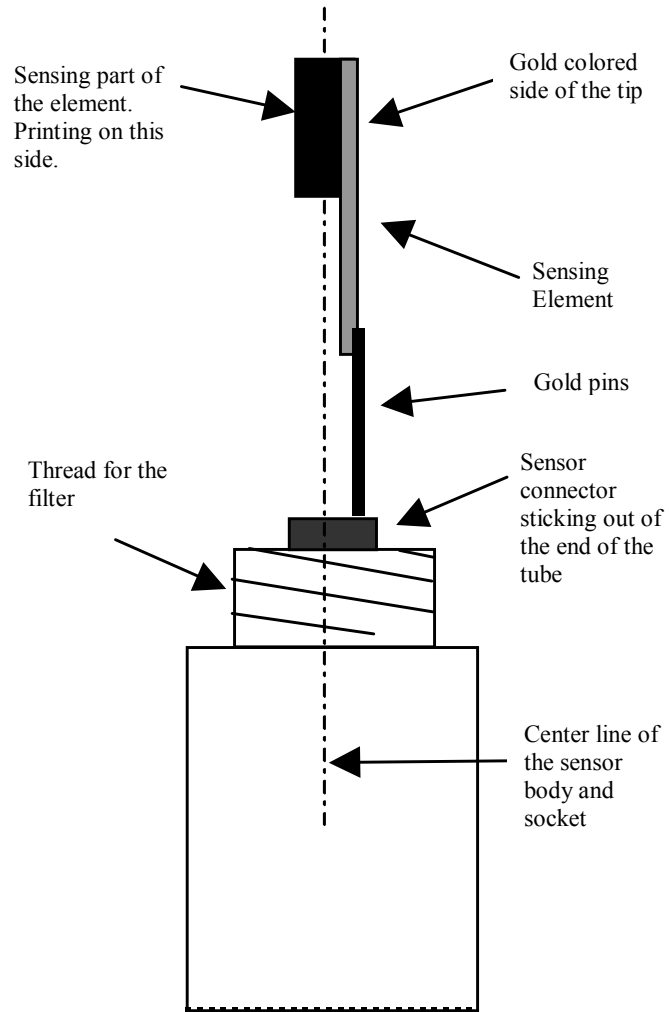
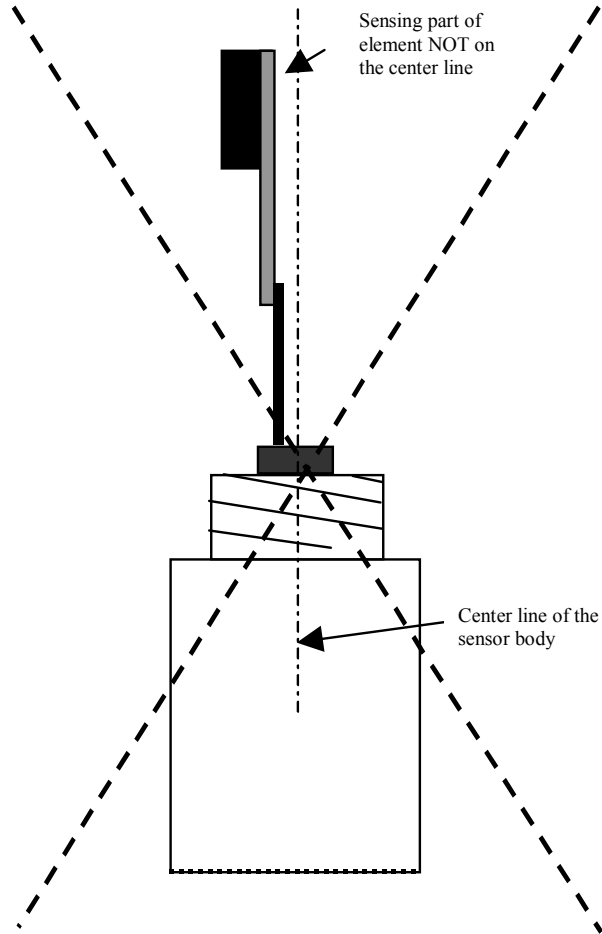

FIGURE 8-1. Correct fit of sensor element (side view)
FIGURE 8-2. Incorrect fit of sensor element (side view)
3. Identify the sensor element referring to Figure 8-1 below, which shows a side-on view of the end of the probe and sensor element. Before removing the element carefully study the probe and note its orientation after reading the following description:
- Figure 8-1 shows the correct orientation, while Figure 8-2 shows the incorrect orientation
10. Before replacing the filter element and turning on the power to the sensor double-check the sensor is inserted in the correct orientation, referring to Figure 8-1.